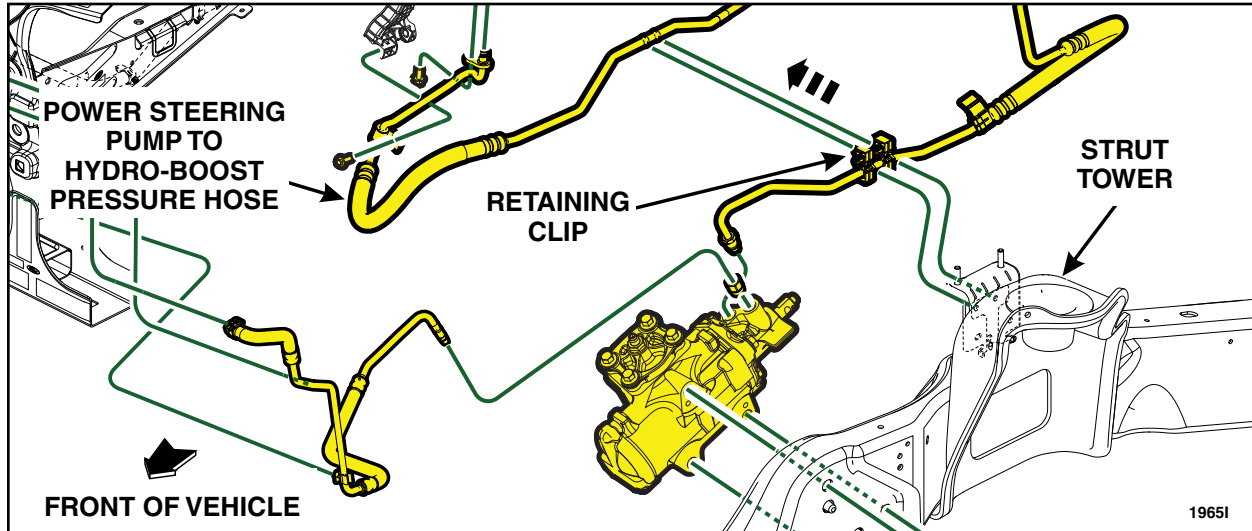

FIGURE 10
4. Release the power steering pressure hose from the retaining clip on the inboard side of the strut tower. See Figure 10.